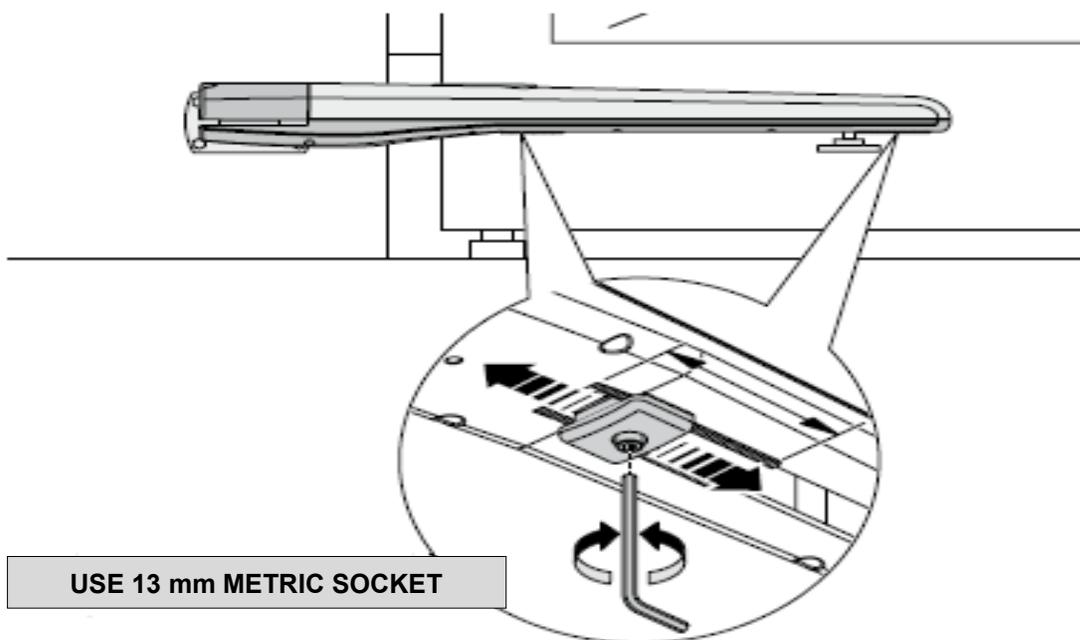
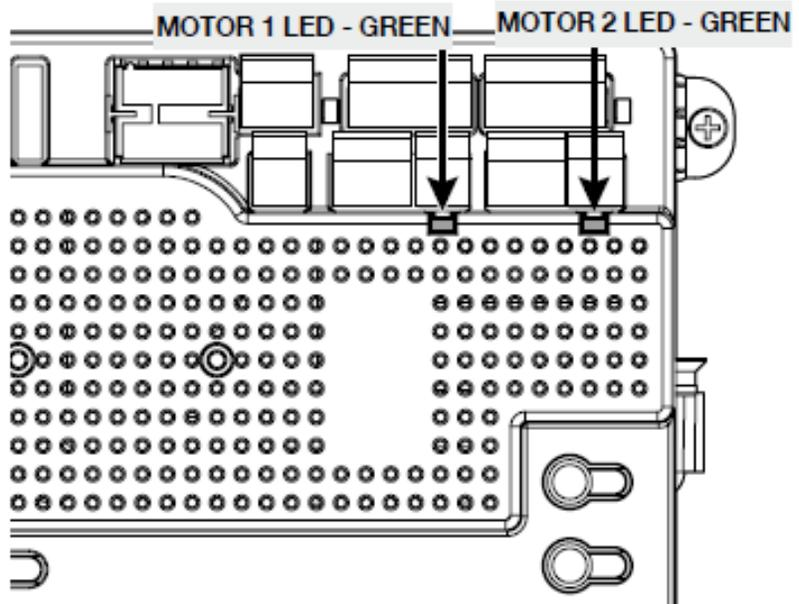
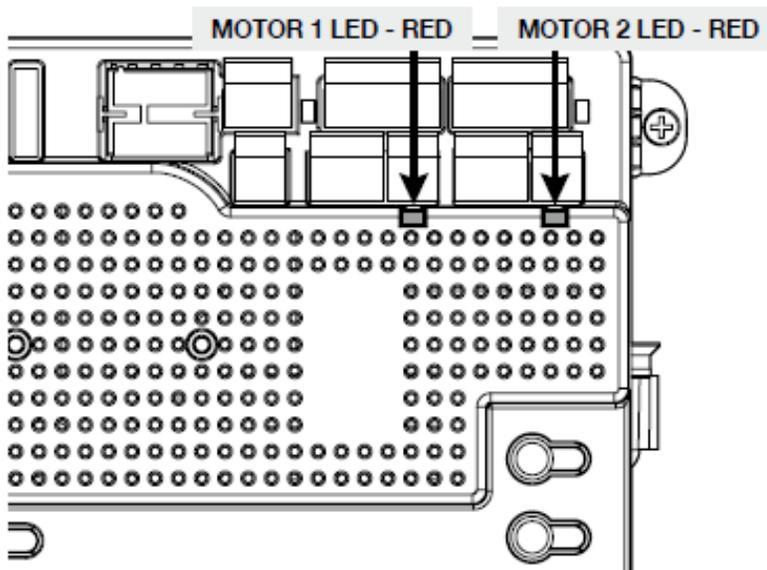

Figure 18 - T5/T7 LIMIT SWITCH ADJUSTMENT
Figure 19 - GREEN OPEN LED
Figure 20 - RED CLOSED LED
5. Adjust the Open Limit Switch (See Figure 18) until the GREEN light illuminates on the front of the control board (See Figure 19). The FULLY OPEN limit switch is now set.
7. Adjust the Closed Limit Switch (See Figure 18) until the RED light illuminates on the front of the control board (See Figure 20). The fully CLOSED limit switch is now set.